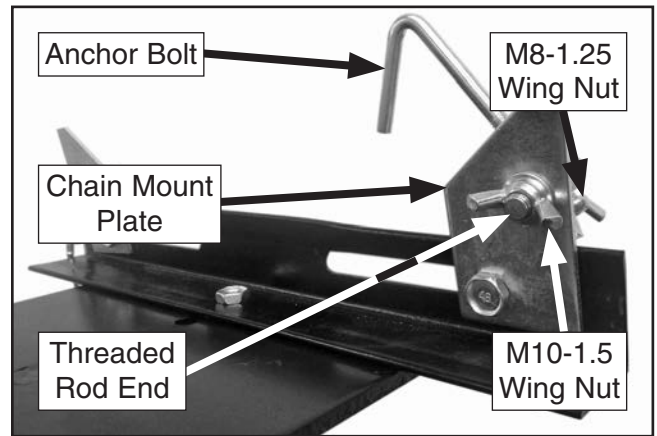

Figure 9. Threaded rod end and anchor bolt attached to chain mount plate.
- Attach (1) threaded rod end to each chain mount plate with (1) 10mm flat washer and M10-1.5 wing nut, as shown in **Figure 9**.
- Slide threaded end of anchor bolt through rod end and attach with M8-1.25 wing nut (see **Figure 9**).